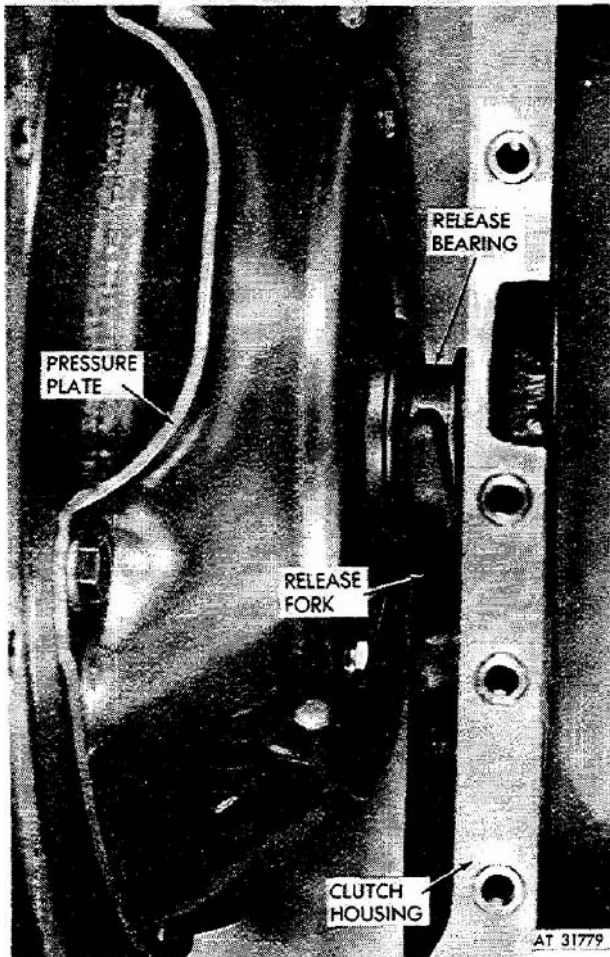

Figure 2-9. Proper installation of release bearing
(4) Connect isolator (11) and isolator bracket (12) to clutch housing (10) and secure with screws (17) and lock washers (16). Tighten screws to 55-65 lbs-ft. torque. Install ball stud (18) in clutch housing. Install release fork (26) in housing. Connect clutch housing to flywheel housing and secure with screw (15) and lock washer (14).
(5) Lower engine and connect isolator brackets (12) to hull with screws (13). Remove engine lifting sling (11595523). Connect bracket (21) to clutch housing and secure with screw (19) and lock washer (20).
(6) Snap release fork (26) on ball stud (18). Connect adjustment rod (22) to release fork and secure with nuts (24 and 25). Connect spring (23) to release fork and bracket (21). Connect release bearing (6) to release fork with bearing face' towards the engine (fig 2-9).